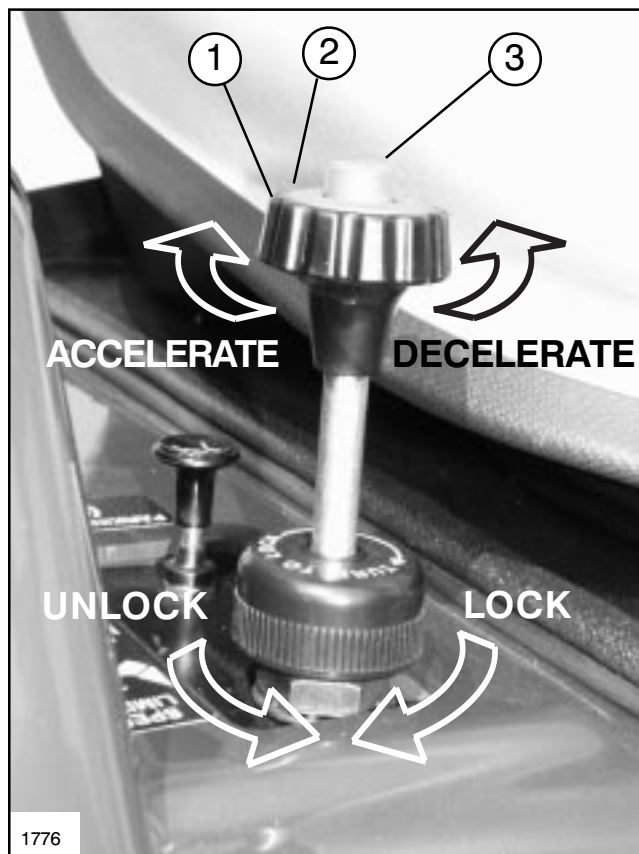

FIG. 1
A. When the Speed Limiter is in the full upright position, the engine is stopped at its lowest speed. (See FIG. 1)
E. When the desired speed is achieved, turn the speed lock at the base of the Speed Limiter clockwise to lock. Be sure to unlock (turn counterclockwise) the speed lock dial at the base of the Speed Limiter before making any adjustment. (See FIG. 1)